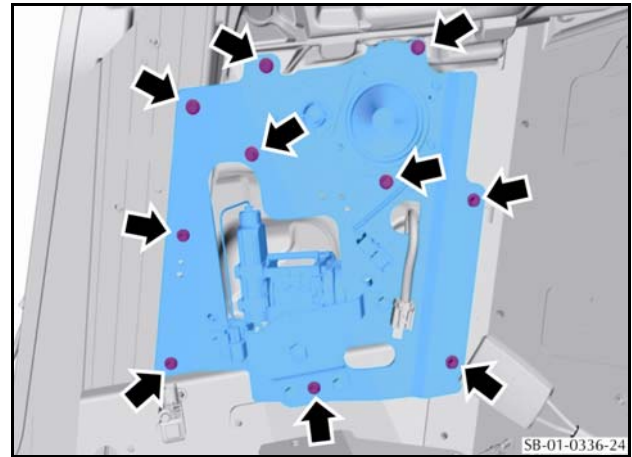

Figure 24
27. Put the seat belt inertia reel and the speaker holding plate into position (Refer to Figure 24).